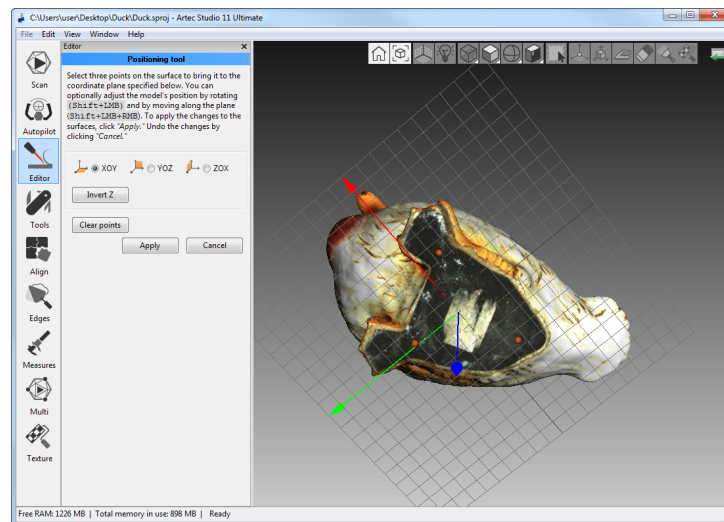

Figure 8.9.: Positioning the model in the global coordinate system.
3. Use **LMB** to specify at least three points on the surface; the plane will automatically pass through their center of mass (see Figure 8.9.). The following conditions will then apply: